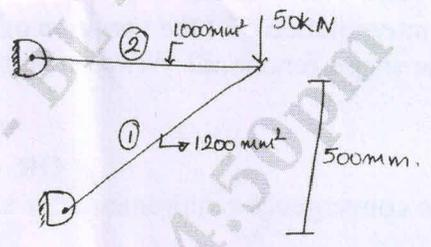

Fig.Q7
- 7 For the two bar truss shown in Fig.Q7 determine the nodal displacement and the stress in each member. Also find the support reaction. $E = 2 \times 10^5 \text{ N/mm}^2$. (20 Marks)